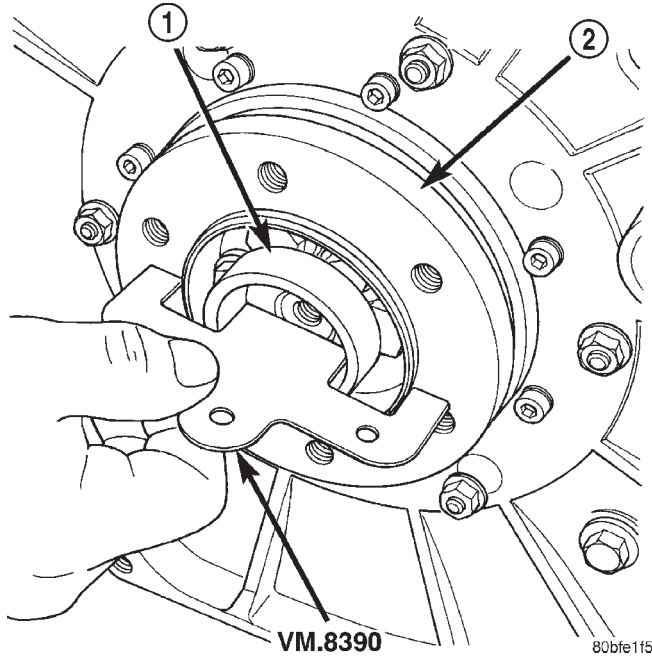

Fig. 109 Transmission Pilot Bushing Gauge VM-8390
(4) Once the transmission pilot bushing is installed, remove the special tool VM-8372.
(5) Use special tool VM-8390 to make sure pilot bushing is installed to proper depth (Fig. 109). **Be sure that the outside edges of special tool VM-8390 make contact with the flexplate adapter hub. If contact is not made remove the transmission pilot bushing and check for debris in the flexplate adapter hub. Then reinstall the transmission pilot bushing into the flexplate adapter hub.**